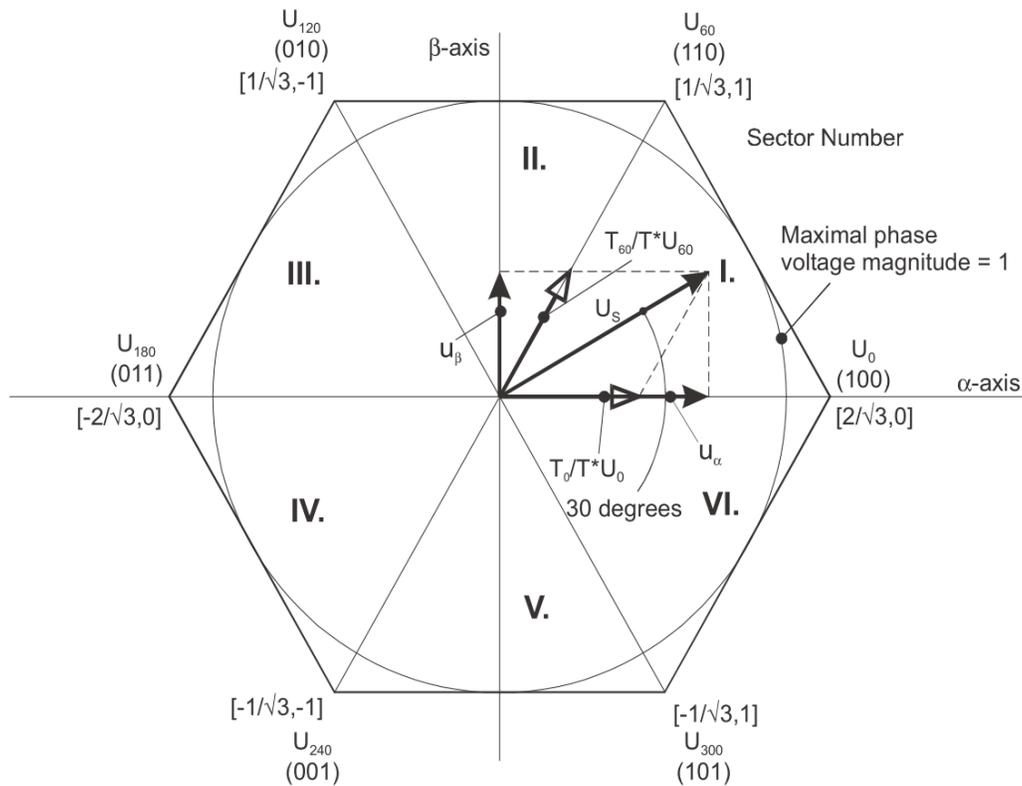
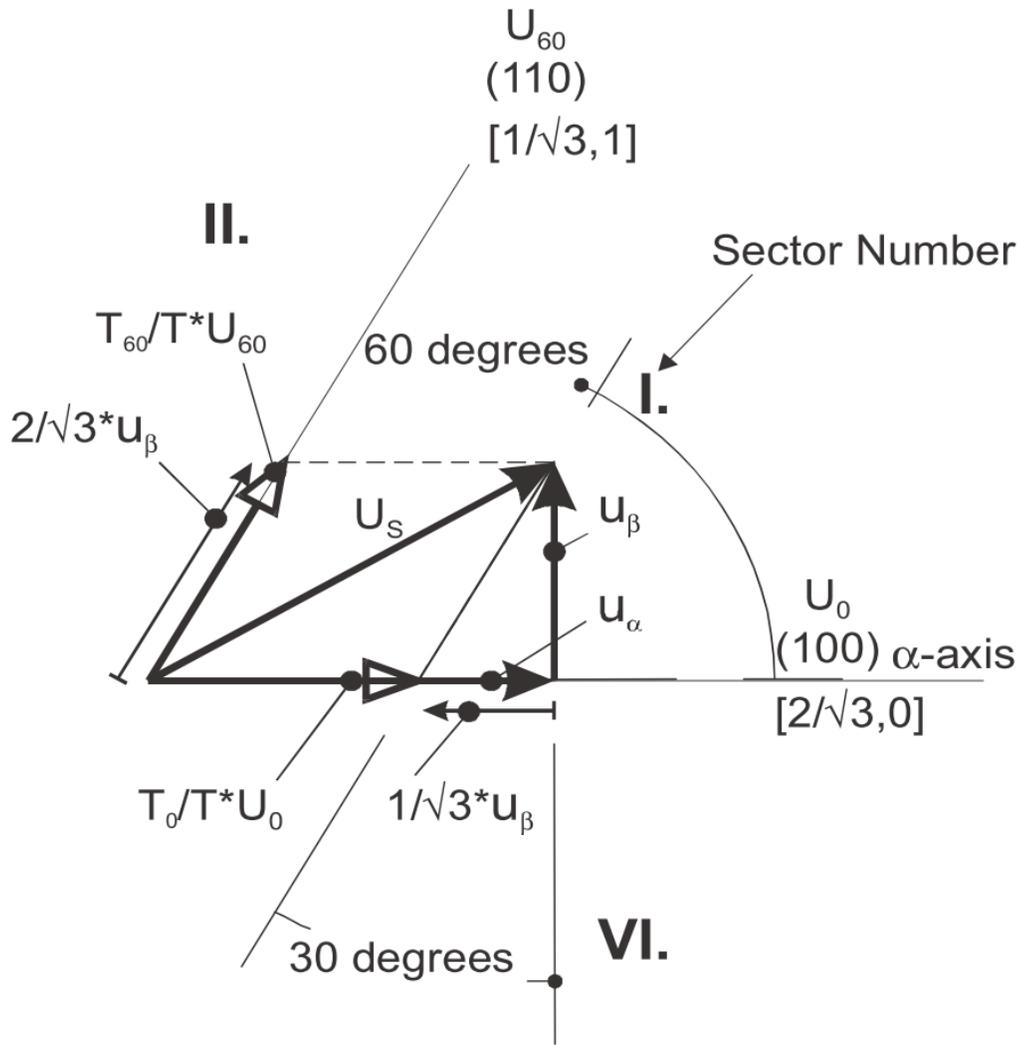
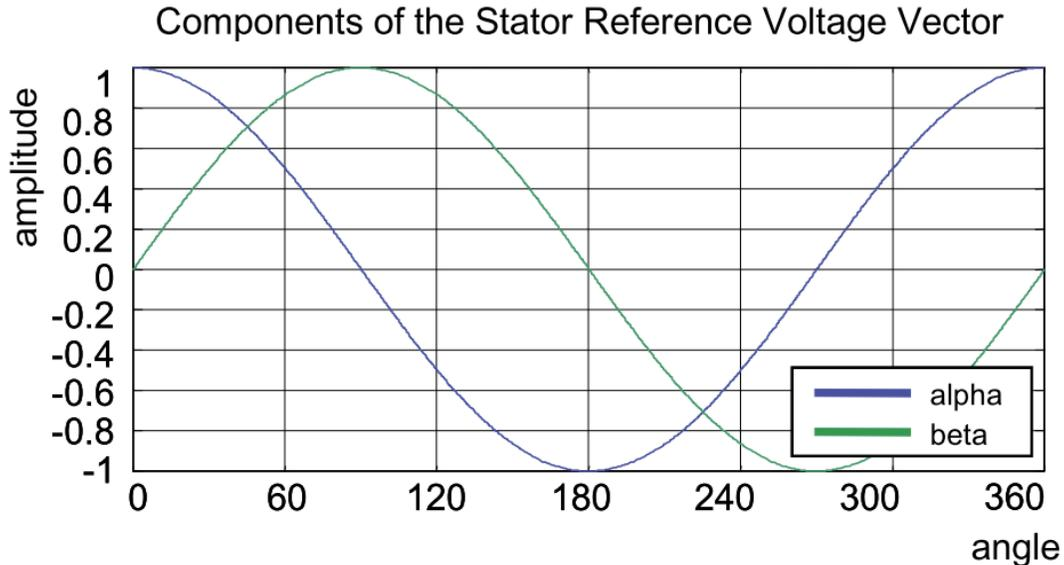
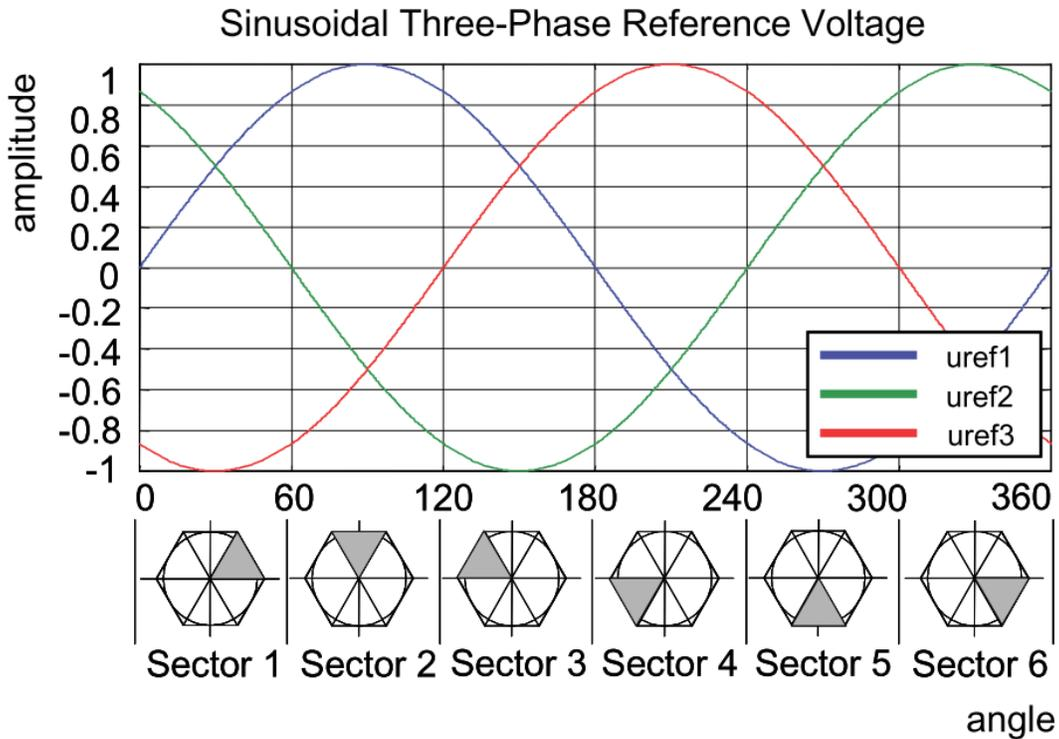

Figure 2-7. Projection of reference voltage vector in the respective sector
Figure 2-8. Detail of the voltage vector projection in the respective sector
Figure 2-11. Direct- u_{α} and quadrature- u_{β} components of the stator reference voltage
Figure 2-12. Reference voltages U_{ref1} , U_{ref2} , and U_{ref3}
Referring to this principle, the objective of the standard space vector modulation is an approximation of the reference stator voltage vector U_S , with an appropriate combination of the switching patterns, composed of basic space vectors. The graphical explanation of this objective is shown in Figure 2-7 and Figure 2-8.
The modified Inverse Clark transformation projects the quadrature- u_{β} component into u_{ref1} , as shown in Figure 2-11 and Figure 2-12, whereas voltages generated by the conventional Inverse Clark transformation project the direct- u_{α} component into u_{ref1} .
Figure 2-11 depicts the direct- u_{α} and quadrature- u_{β} components of the stator reference voltage vector U_S , which were calculated using equations $u_{\alpha} = \cos \vartheta$ and $u_{\beta} = \sin \vartheta$, respectively.
In the worst case, at least three simple comparisons are required to precisely identify the sector of the stator reference voltage vector. For example, if the stator reference voltage vector is located as shown in Figure 2-7, the stator-reference voltage vector is phase-advanced by 30° from the direct α -axis, which results in the positive quantities of u_{ref1} and u_{ref2} , and the negative quantity of u_{ref3} ; see Figure 2-12. If these quantities are used as the inputs for the sector identification tree, the product of those comparisons will be sector I. The same approach identifies sector II, if the stator-reference voltage vector is